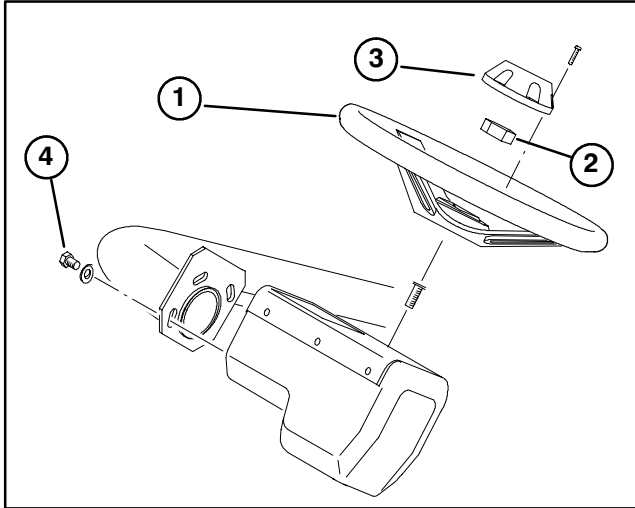

Figure 3
3. Secure seat, seat panel and seat slides to seat support with 5/16–18 locknuts supplied in loose parts. Seat cover to be mounted on right side, positioned as shown in fig. 3.
INSTALL STEERING WHEEL (Fig. 3)